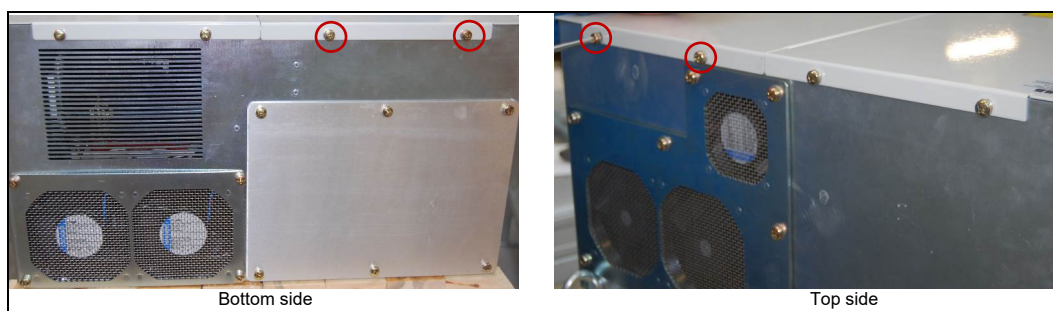

Figure 2: Locating the 4 panel securing screws
- Remove the 4 panel securing screws at the bottom and the top of the enclosure (see Figure 2).